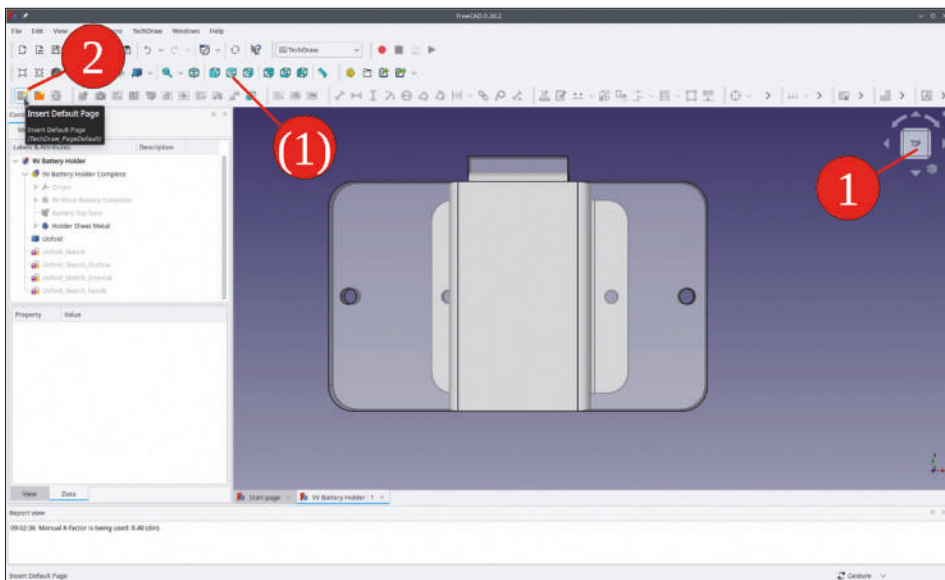

Figure 5-27
For the actual making of parts, it is necessary to export the data into a useful, portable format. These days, many machine controllers can read DXF files. This is also true for, for example, NC EAS(Y)5 from the EAS company [EAS 2022]. Exporting and re-importing are demonstrated here with the battery holder example. For this, a drawing of the flattened part is needed: Figure 5-27.
33. First, bring the battery holder into the exact 'top' orientation. To achieve this, click either on the control cube (Figure 5-27, step 1) or the 'Top' tool button (same figure, alternative step 1). The precise orientation is important: A slight misalignment of the object would be projected onto the drawing, changing the dimension values. This is difficult to spot by eye and can be disappointing later.
34. Switch to the 'TechDraw' workbench. Click the 'Insert Default Page' tool button (Figure 5-27, step 2). In the tree view, a new object 'Page' appears, with a 'Template' object for the frame of the drawing. Rename the 'Page' object to 'Unfold Drawing'.